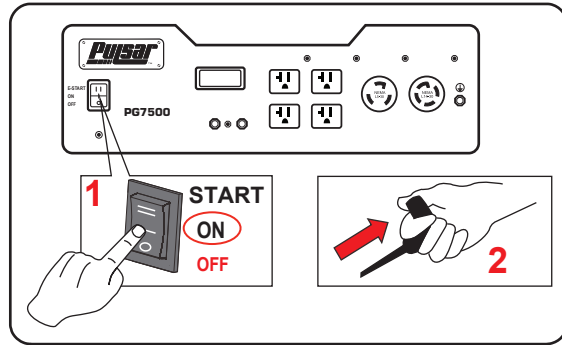

Fig 10 Recoil Start
- For manual start, push engine ON/OFF switch to the “ON” position. Push the engine START/ON/OFF switch to the “START” position. Pull recoil handle (starter cord) slowly until resistance is felt, then pull rapidly. (See fig 10)